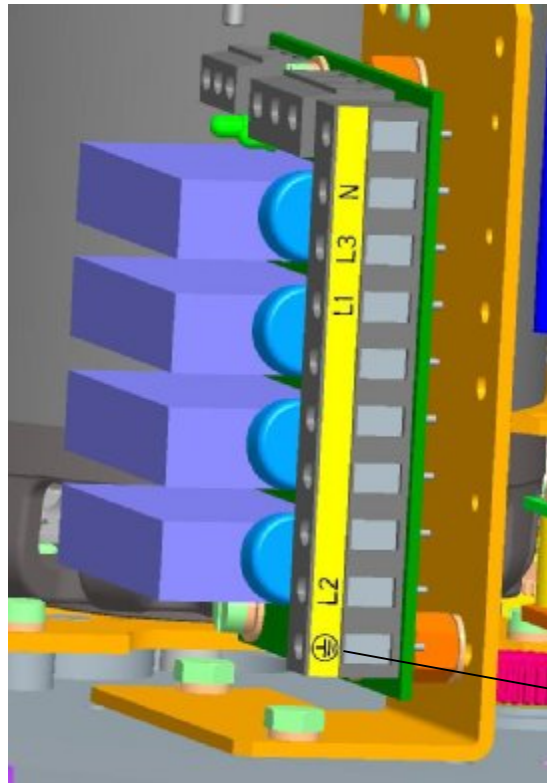

**Fig.2**
- outside and inside ground terminal must be connected for safe operation of the actuator. The position of the outside and inside ground terminal can be seen in **Fig. 2 2a, 2b, 2c, 2d, , 2g, 2h**. For forcing - in wires in external ground terminal be needed use pliers HP3 for insulated eyelet (firm CEMBRE).
Actuator power supply board is installed with power supply fuse (F3). Location of the fuse on the power supply board can be seen in **Fig.2**.